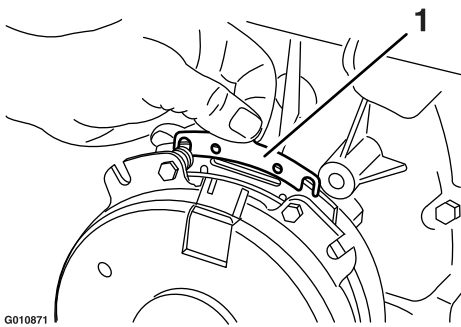

Figure 67
- B. Using needle-nose pliers, or by hand, hold the tab and remove the shim (Figure 67).